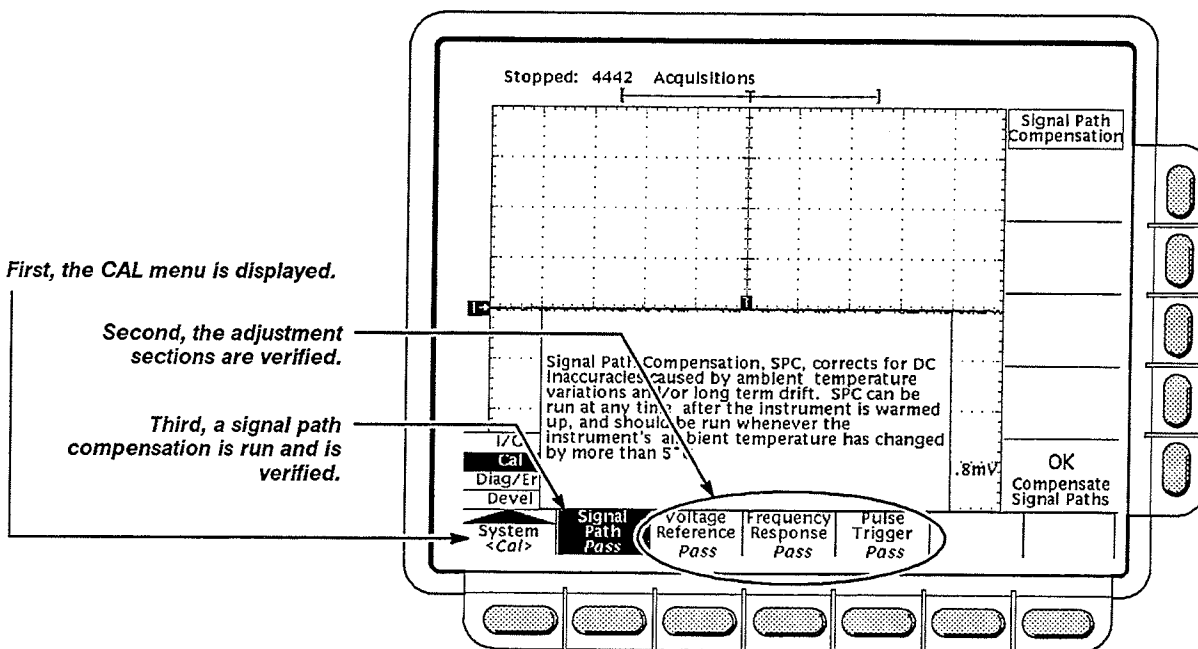

Figure 4-2: Verifying Adjustments and Signal-Path Compensation
- Verify that the word **Pass** appears in the main menu under the following menu labels: **Voltage Reference**, **Frequency Response**, and **Pulse Trigger**. (See Figure 4-2.)
- h. *Confirm signal-path compensation returns passed status:* Verify that the word **Pass** appears under **Signal Path** in the main menu. (See Figure 4-2.)